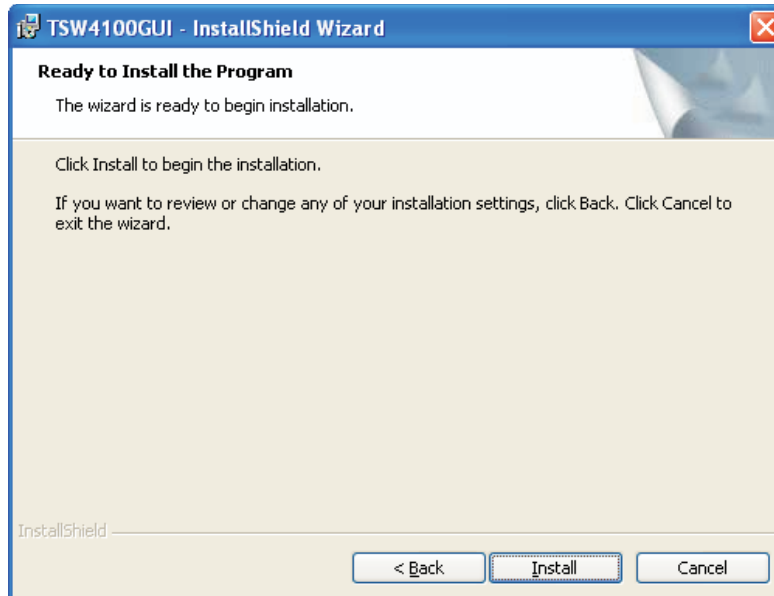

Figure 12. Ready to Install the Program
- On the Ready to Install the Program (Figure 12) display, click *Install*. The installation takes between one and three minutes to complete.